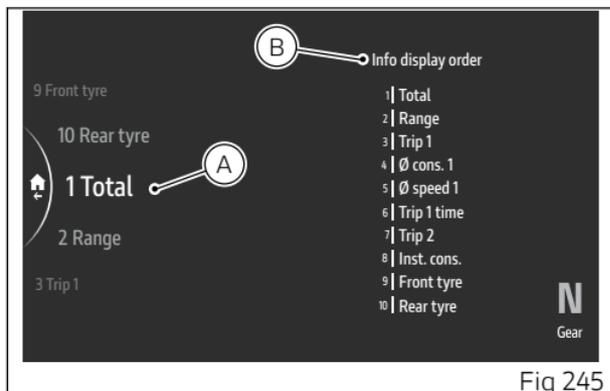

Fig 245
The list of the 10 selectable items, with the number of their current position (A, Fig 245) is displayed in the middle. The current order of the Info display (B, Fig 245) is displayed on the right-hand side.
- Use the joystick ▲ ▼ to select “Total” and press ENTER (Fig 245).
To restore the original order, select the "Default" item and press ENTER: "Wait..." is displayed for a few seconds followed by "Restored". Then, "Default" item disappears from the menu list, while the positions of the items and the current order of the Info display are restored to their original conditions (Fig 245).